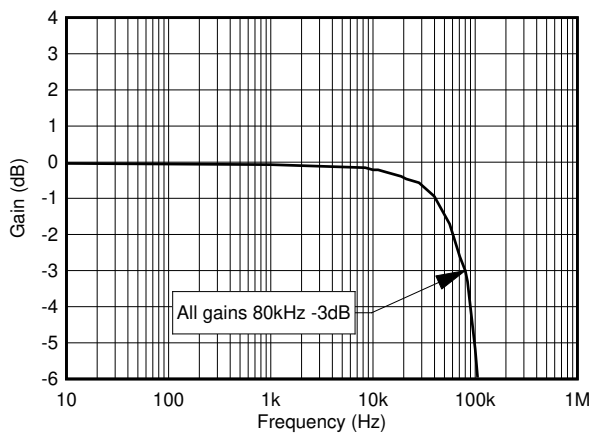

**Figure 9-8. Input-Referred Offset Drift After AEC-Q100 High Temperature Operating Life Stress Test**
The same compensation techniques used in the TMCS1101-Q1 to reduce temperature drift also greatly reduce lifetime drift due to aging, stress, and environmental conditions. Typical magnetic sensors suffer from up to 2% to 3% of sensitivity drift due to aging at high operating temperatures. The TMCS1101-Q1 has greatly improved lifetime drift, as defined in the Electrical Characteristics for total sensitivity error measured after the worst case stress test during a three lot AEC-Q100 qualification. All other stress tests prescribed by an AEC-Q100 qualification caused lower than the specified sensitivity error, and were within the bounds specified within the Electrical Characteristics table. Figure 9-6 shows the total sensitivity error after the worst-case stress test, a Highly Accelerated Stress Test (HAST) at 130°C and 85% relative humidity (RH), while Figure 9-7 and Figure 9-8 show the sensitivity and offset error drift after a 1000 hour, 125°C high temperature operating life stress test as specified by AEC-Q100. This test mimics typical device lifetime operation, and shows the likely device performance variation due to aging is vastly improved compared to typical magnetic sensors.